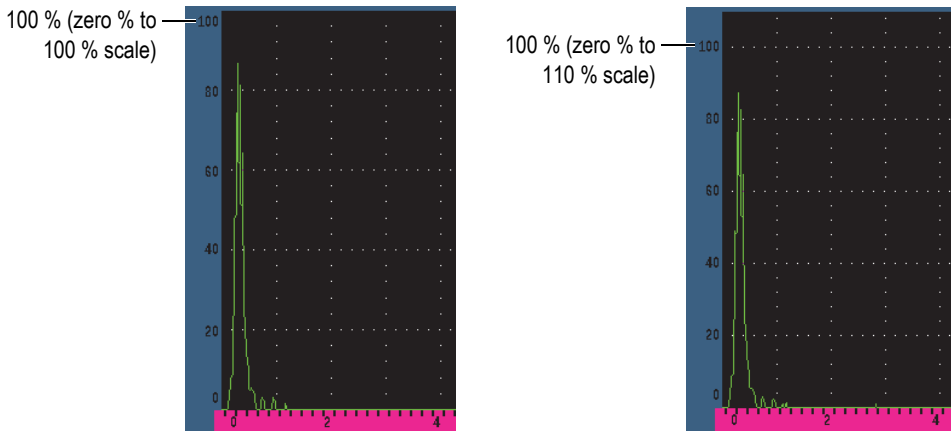

Figure 6-5 The y-axis grid modes: 100 % (left), 110 % (right)
5. Select the desired y-axis grid mode (see Figure 6-5 on page 134).